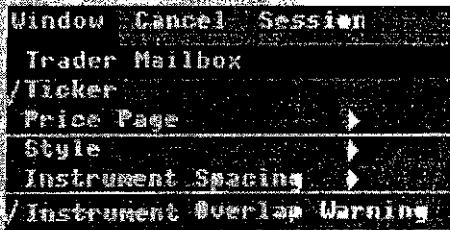

Figure 10.3 Window Drop-Down Menu
The Window drop-down menu is shown in Figure 10.3. Each of the menu choices is explained in the sections that follow in this user guide. All choices on this menu are not available in each display style. For example, instrument overlap warning is not available in freeform display style; Trader Mailbox is not available in fixed display style. The availability of various choices is detailed at the start of each section.
1. Choose Window in the menu bar. If the Trader Mailbox is currently displayed, it will be checked in the drop-down menu. If it is not currently displayed (as in Figure 10.3), it will not be checked.
1. Choose Window in the menu bar. If the Ticker is currently displayed (as in Figure 10.3), it will be checked in the drop-down menu. If it is not currently displayed, it will not be checked.